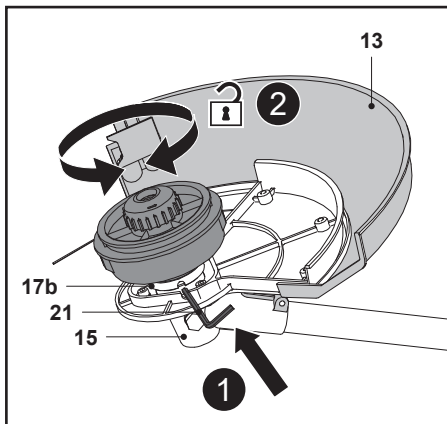

Fig. 26
1. Turn the product upside down to access the trimmer head (16).
2. Rotate the trimmer head (16) until the hole on the backing flange (17b) is aligned with the notch in the gear head (15).
3. Insert the bigger end of multi-tool (21) into the hole to lock the spindle (17) (Fig. 26, step 1).
4. Loosen the trimmer head (16) clockwise (Fig. 26, step 2) by hand and remove it from the spindle (17).